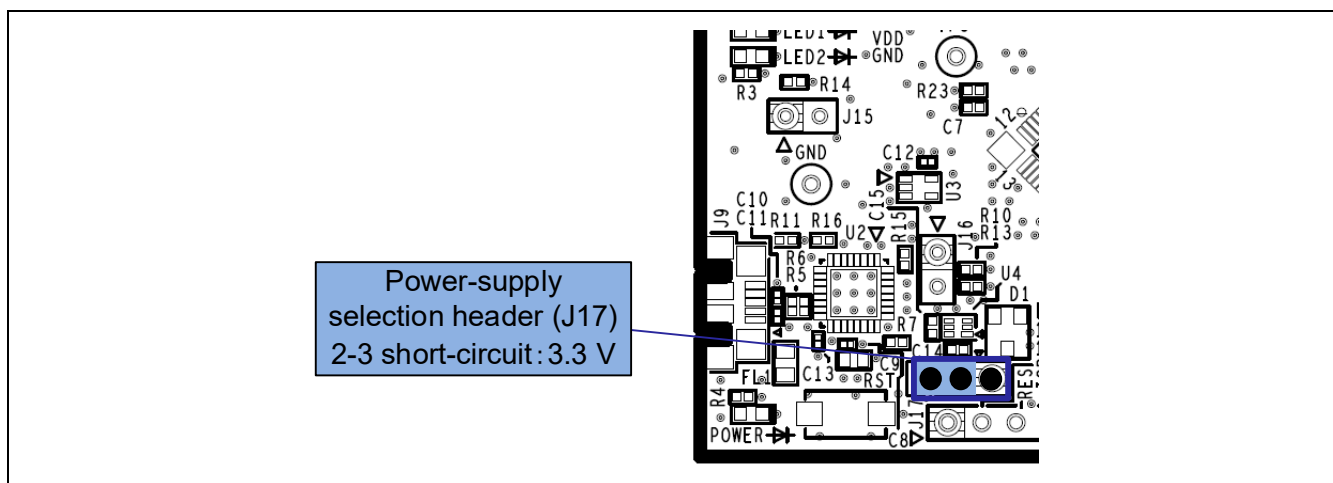

Figure 5-6 Setting of the Header to Select a 3.3-V Power Supply (Top Side)
- 2-3 of J17 being short-circuit selects a 3.3-V power supply (Figure 5-6).